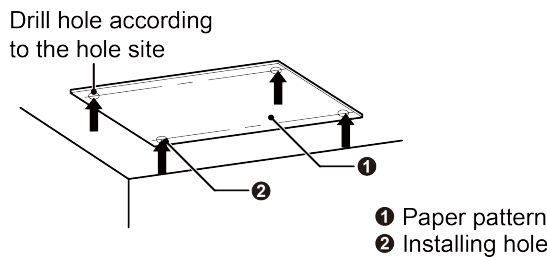
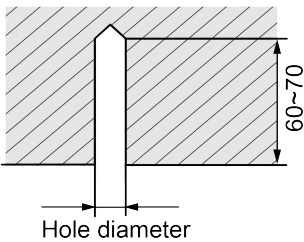

Fig.4.1.9
Fig.4.1.10
1) Stick the installation template at the installation position flatly, drill 4 holes at the installation position basing on the installation template. As shown in Fig.4.1.9. Please refer to the diameter of expansion bolt for the diameter of hole with depth of 60-70mm. As shown in Fig.4.1.10.